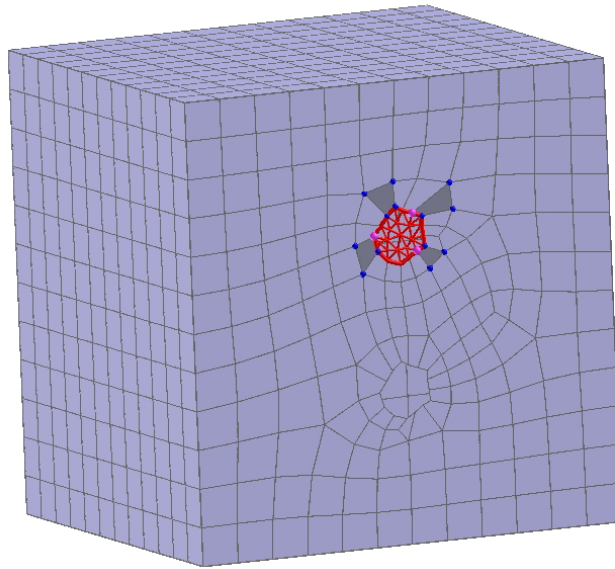

Figure A.15 Fill hole using triangle elements.
- Pick the nodes until a unique closed loop is identified by the appearance of triangle elements filling the hole as shown in Figure A.15.